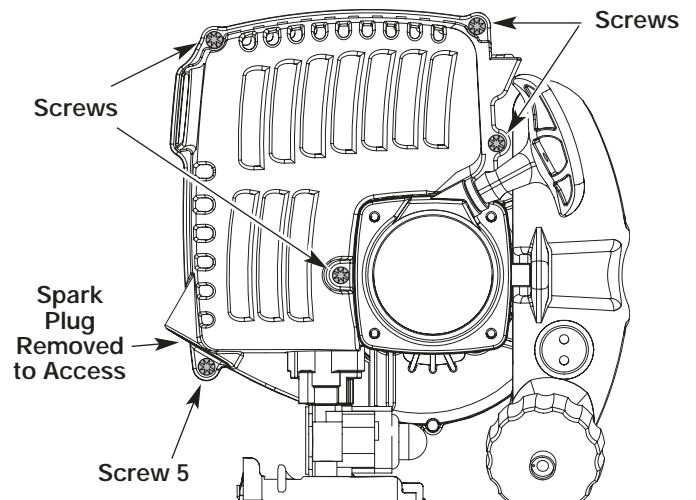

Fig. 13
2. To access the muffler and spark arrester, you must remove the engine cover. Using a T-25 torx or flathead screwdriver, remove the five engine screws pictured in Figure 13.
NOTE: You will have to remove the spark plug to access one of the engine cover screws (Screw 5) (Fig. 13).